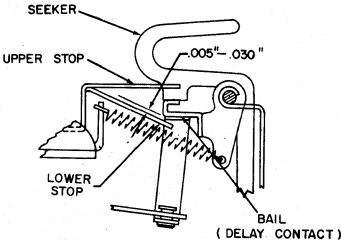

Figure 20
2. There should be a visible to .012" clearance between the armature and the lower clutch coil when the armature is fully attracted to the upper clutch coil (Figure 20). If this clearance is not obtained, change one or both magnet coils. Change the armature itself if it is worn where it contacts the upper clutch magnet coil.
is .003" to .006" clearance between the tip of the clutch sleeve and the tip of the clutch armature with the armature fully attracted (Figure 20).